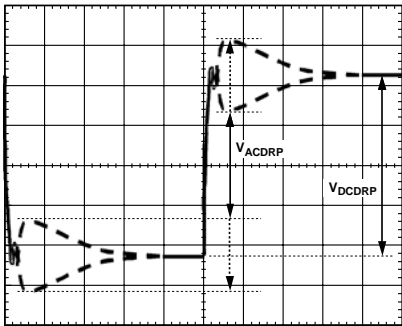

Figure 15. AC Loadline Waveform
15. This waveform should look something like Figure 15. Use the horizontal cursors to measure V_{ACDRP} and V_{DCDRP} as shown. Do not measure the undershoot or overshoot that happens immediately after the step.